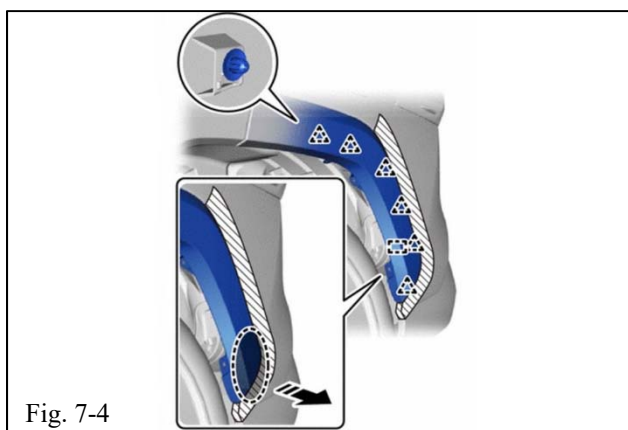

Fig. 7-4
(4) Pull back the edge of the rear wheel house liner LH and detach the guide (square in Fig. 7-4).
(5) Disconnect the rear quarter outside molding sub-assembly LH (Fig. 7-4).